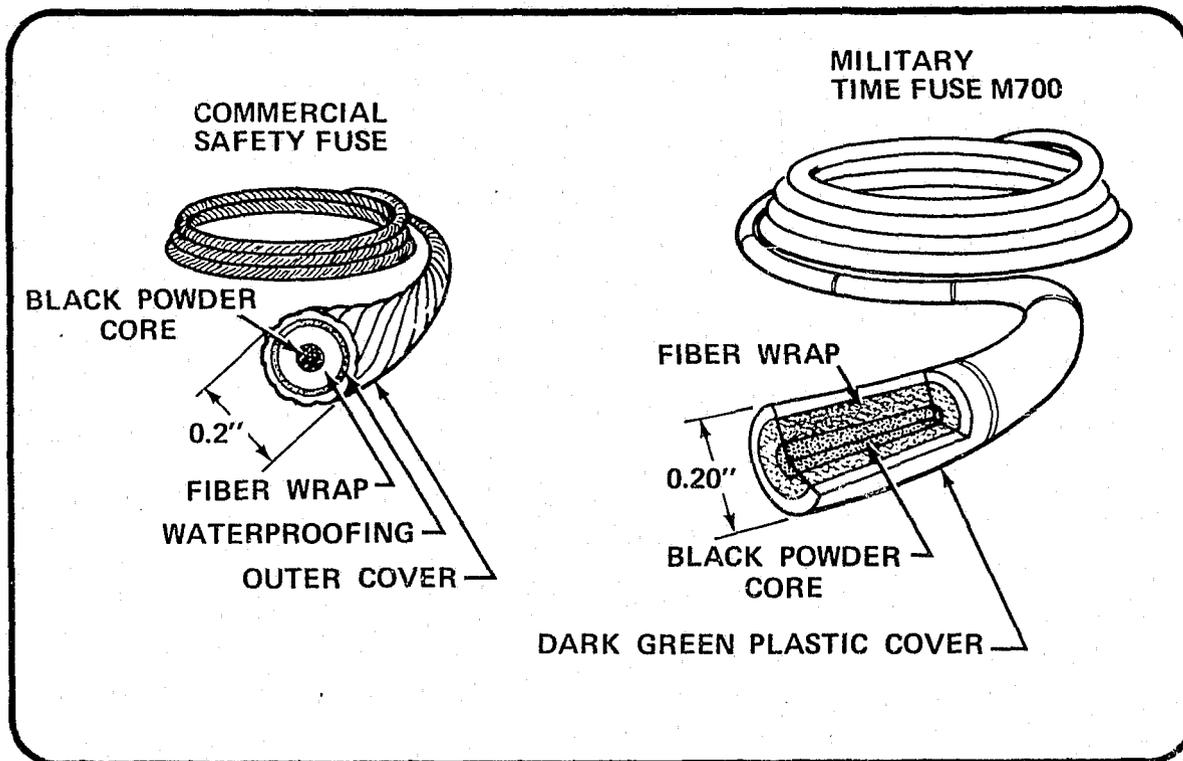

Figure 24
- **Commercial Safety Fuse.** There are numerous brands of commercial safety fuse, but their only essential difference is in the type of exterior water proofing materials and color markings. Commercial safety fuse, figure 24, is approximately 0.2 inches in diameter, about the size of a lead pencil, and comes in 50-foot, paper wrapped, rolls or coils. It is colored orange for general use, black for use in salt mines, and white for use in coal mines.
- **Military Safety Fuse.** The U.S. military uses two types of safety fuse, one called "safety fuse" and the other called "M 700 time fuse." They are interchangeable in use and similar in construction. The M 700 time fuse is illustrated in figure 24.